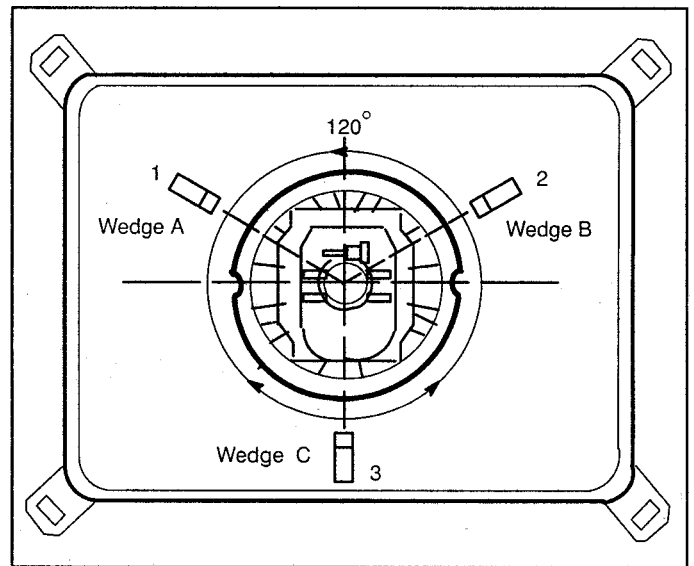

Fig. 25
1. Wedge A, B, and C should be inserted following the sequence of 1, 2, and 3 shown in Fig. 25.